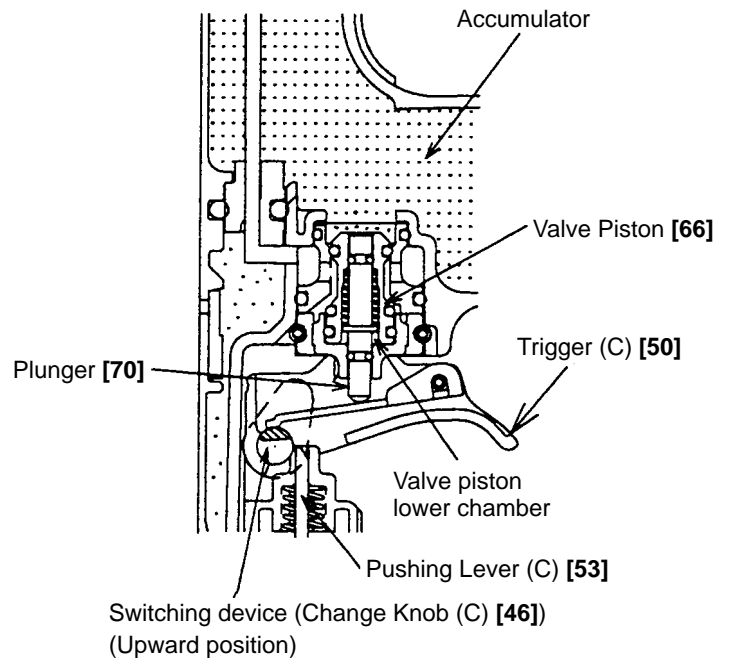
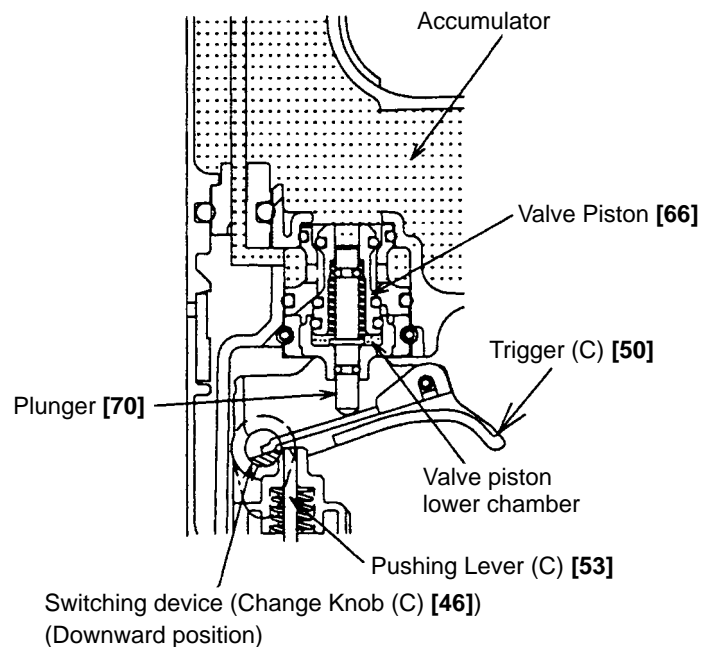

Fig. 8 Single actuation mechanism
Fig. 9 Contact actuation mechanism
(4) Single actuation mechanism/contact actuation mechanism: (Fig. 8 and Fig. 9)
- 2) When only Pushing Lever (C) [53] is released and Trigger (C) [50] is held as shown in Fig. 8, the plate of Trigger (C) [50] contacts Change Knob (C) [46] and the Plunger [70] returns (lowers) only halfway.
- 2) Even when only Pushing Lever (C) [53] is released and Trigger (C) [50] is held, the Plunger [70] returns (lowers) completely as shown in Fig. 9. Thus the Piston [13] returns (raises) fully. Accordingly, continuous nailing can be accomplished by pushing only Pushing Lever (C) [53] up and down while holding Trigger (C) [50] depressed.